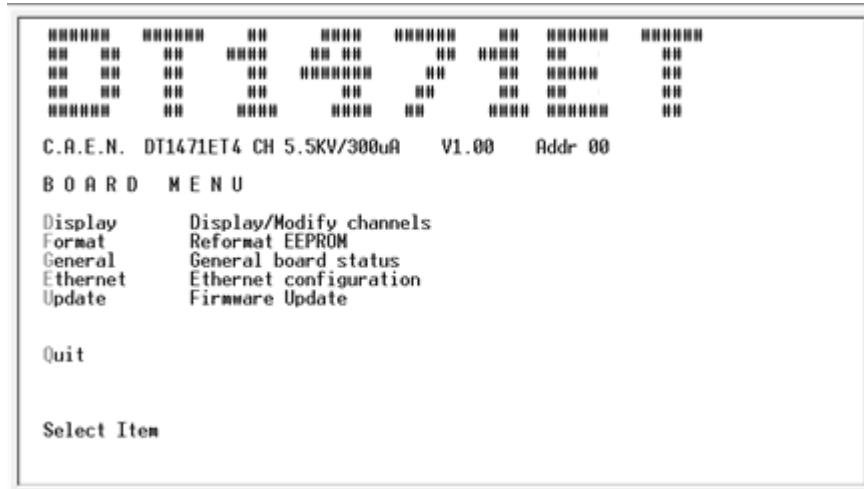

Fig. 24: Terminal Board Menu
- go to Terminal Board Menu (Fig. 24)
By typing F on Terminal Board Menu (Fig. 24) it is possible to access the format EEPROM menu.
By typing D on Terminal Board Menu (Fig. 24) it is possible to access channels settings
By typing G on Terminal Board Menu (Fig. 24) it is possible to monitor the General Board Status